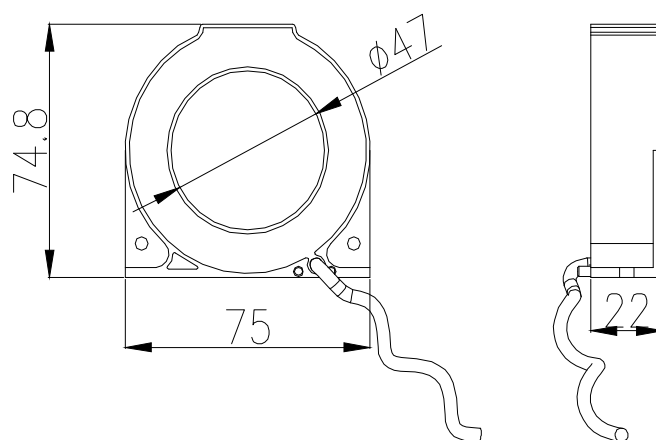

Figure 7 The external dimensions of leakage current transformer
5.3.3 The external dimensions of leakage current transformer are shown in figure 7 and table 5(Unit:mm):